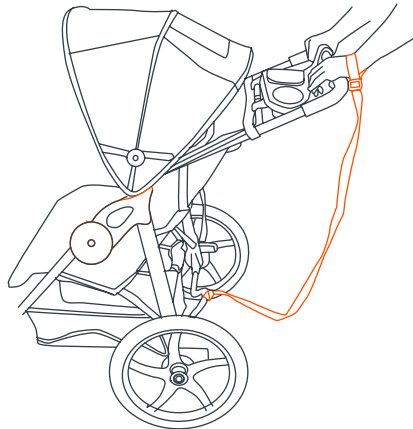

Fig. 16a
- 16) • SAFETY WRIST STRAP:** Always connect the safety strap to either wrist when jogging. This strap will keep the stroller from rolling away in the event that you trip while running (Fig. 16a).